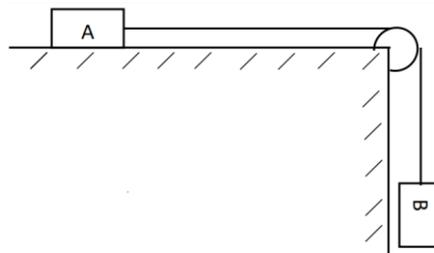

Figure 9
| 14 | a) | Two blocks of 100N (A) and 50N (B) are connected by a flexible but inextensible string as shown in the Figure 9. Assuming coefficient of friction between block 100N and horizontal surface is 0.25, find the acceleration of masses and tension in the string. | CO4 | (7) |